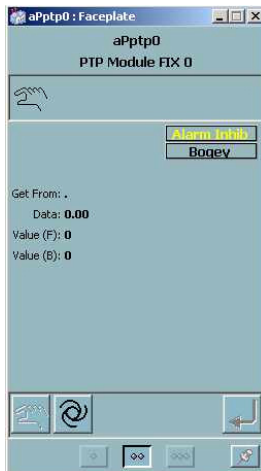

Figure 210. PTP Module
**Peer-to-Peer (PTP).** The Peer-to-Peer module faceplate represents a request for sending or transmitting data from one 800xA for DCI controller to another. The PTP module reports the source or destination value name, the value in three formats (general, float, and count), operational mode, and alarm status used for display in the faceplate. Figure 210 shows the layout of the PTP normal sized faceplate and its attributes.